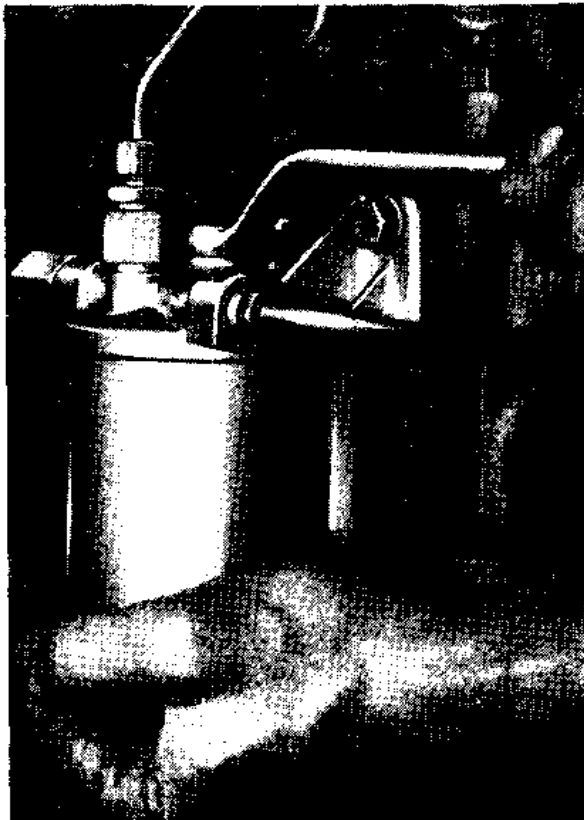

Fig. 15
- (b) Unscrew the filter bowl in the centre of the head (see fig. 15).